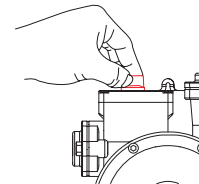

Fig. 2
Do not start the pump until the system has been filled full water. please follow the instructions on Fig. 2 to start up the operation.
5. If pump does not start, please switch it OFF. Fill in water to chamber until pump will start (Fig 2). Or when suction is lower than water supply level, follow the instructions in VI 2. to start your pump.